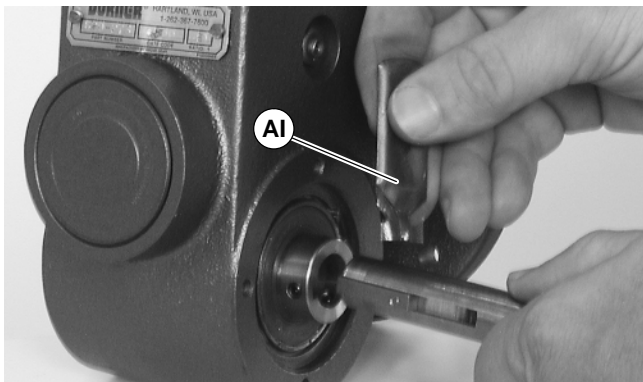

Figure 16
6. Remove two (2) screws (AC) and detach output shaft cover (AD).
7. Remove gear reducer output shaft key (AE).
8. Apply Loctite® 680 Adhesive (AI of Figure 16) to new shaft.